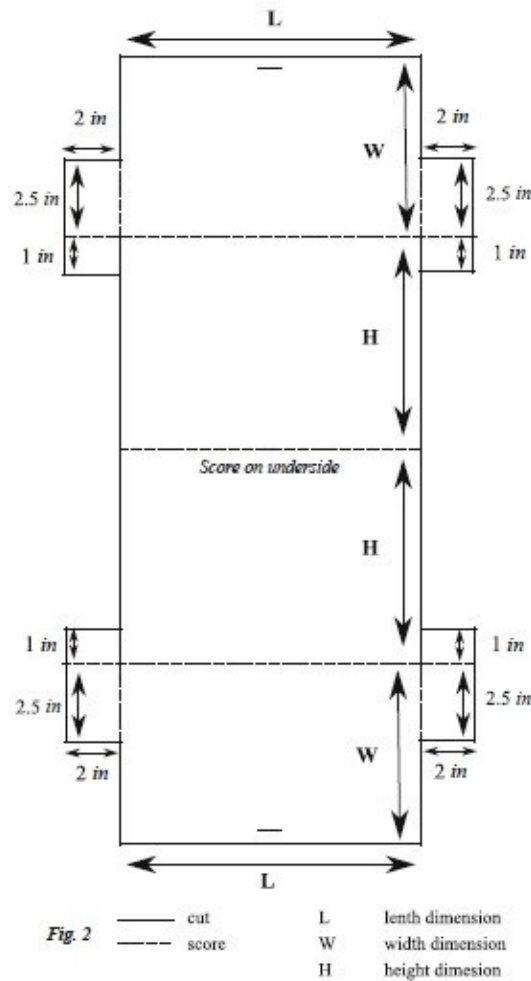

Fig. 1
- 6) The 1in x 2in tab will be used to create a flap that will wrap around the corner. Cut and score the 1in x 2in side flap according to Fig. 1.